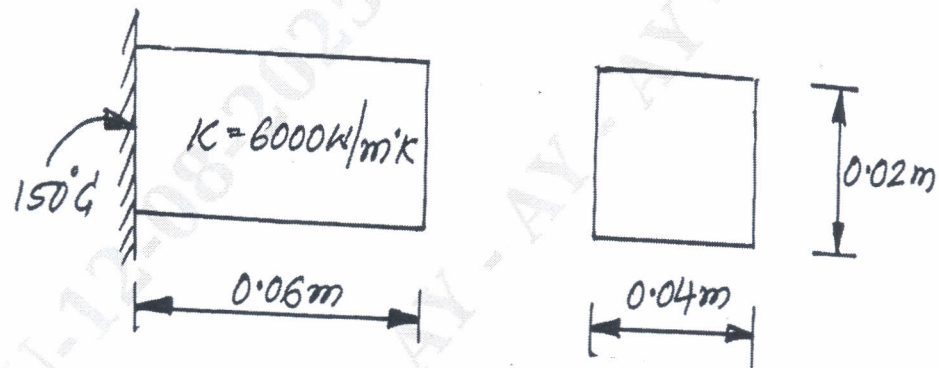

Fig Q7(c)
- c. Determine the temperature distribution of a rectangular fin as shown in Fig Q7(c). Assume steady state heat transfer and only conduction process. Take heat generated inside the fin as  $500 \text{ W/m}^3$ .